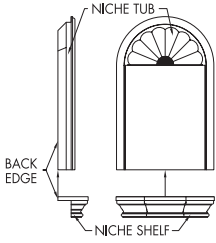

FIGURE 2
2. Apply the Niche shelf to the niche tub making sure that the back edges are even and the shelf is centered with the tub (SEE FIGURE 2).